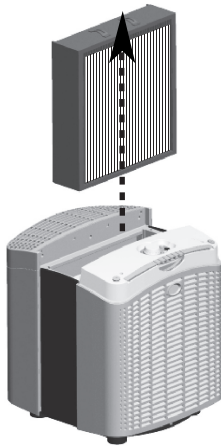

Fig. 7 - Removing the Main Filter
1. Remove the used Main Filter. See Figure 7. Throw away the used Main Filter.